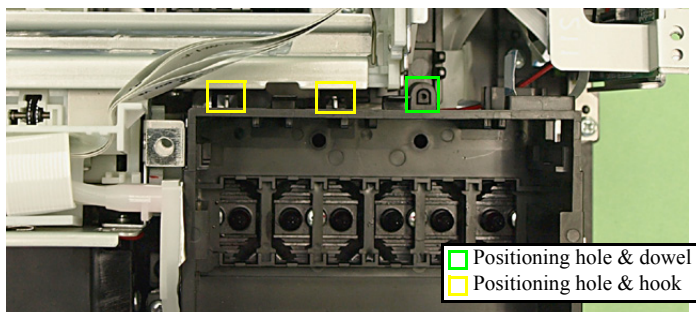

Figure 4-82. Installing the Cartridge Box Unit
- Make sure to align the positioning hole (x1) on the Cartridge Box Unit with the dowel (x1) of the Base Frame when reassembling them. (See Fig. 4-82.)
- When installing the Cartridge Box Unit, make sure to secure the hooks (x2) on the Main Frame to their positioning holes (x2). (See Fig. 4-82.)